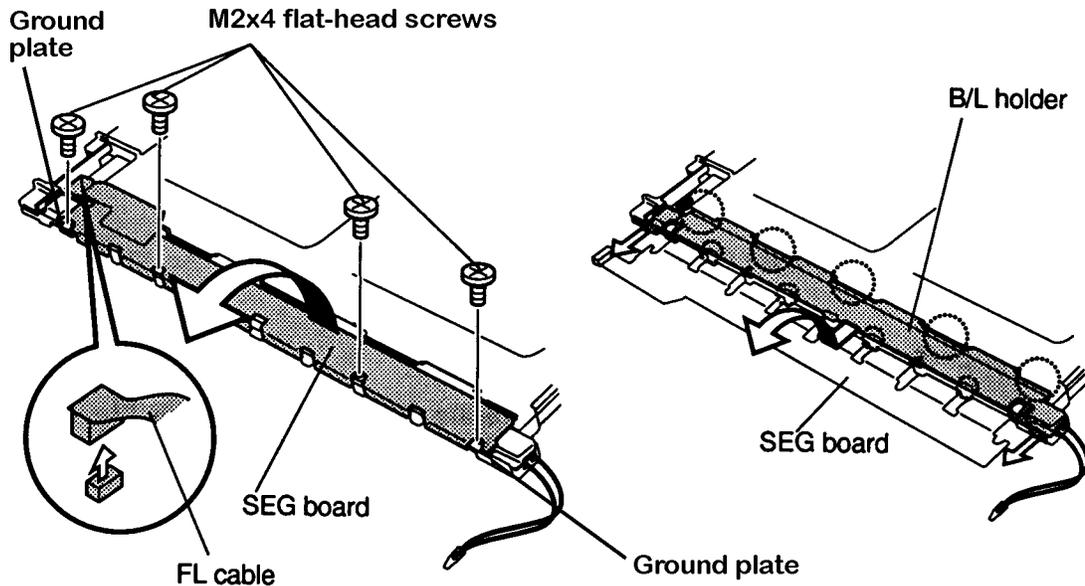

Figure 4-27 Removing the SEG board
6. Gently grip the **FL cable's connector** with a pair of needle nose pliers and disconnect the **FL cable**. Be very careful not to damage the connector and cable (Figure 4-27).
7. Remove the **four flat-head M2x4 screws** securing the **SEG board** and rotate the board out so that it lies flat. Be sure no dust or debris contaminates the unit (Figure 4-27).
8. Remove the two **ground plates** located at each end of the SEG board (Figure 4-27).
9. Slip your finger under the P chassis and release the five latches securing it to the **B/L holder** (Figure 4-27).
3. Rotate the **B/L holder** and **P chassis** into place and gently press the P chassis to secure the latch (Figure 4-27).
4. Replace the two **ground plates** (Figure 4-27).
5. Rotate the **SEG board** back into place (Figure 4-27).